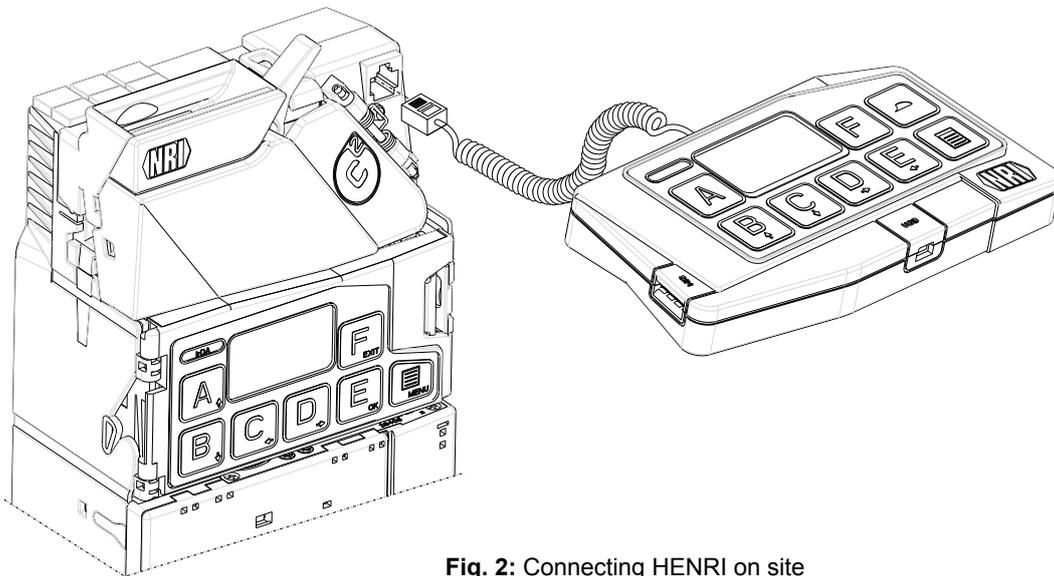

Fig. 2: Connecting HENRI on site
In order to connect HENRI to a coin changer, plug the RJ-45 connector (western plug) of the connecting cable into the socket on the top right of the coin changer (see Fig. 2).
- 4** Connect the power pack to the power supply using the power cable. The display of the WinSPT tester shows "SPT (C)NRI vx.x_".
- 5** Plug the HENRI connector into the socket on the top right of the coin changer (see Fig. 2).